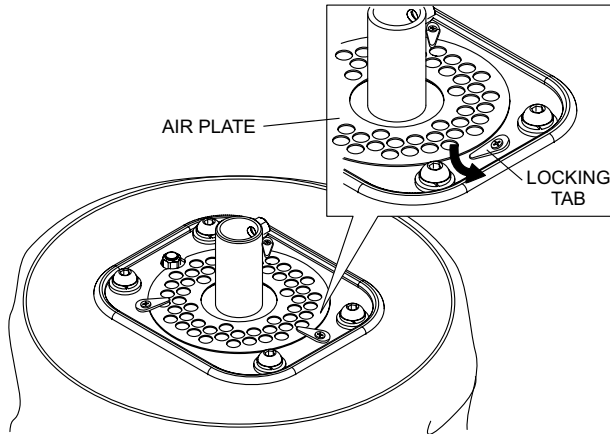

Figure 34. Accessing Filter
2. Turn the balloon/lamp assembly upside down to access the filter. See Figure 34.
3. Turn the three locking tabs outwards to release the air plate. See Figure 34.